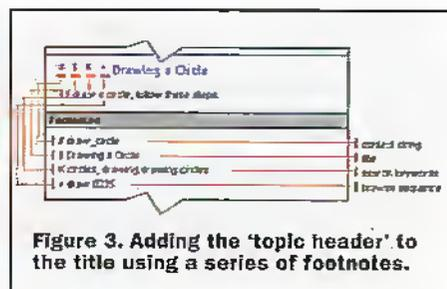

Figure 3. Adding the 'topic header' to the title using a series of footnotes.
6 μ m, and it is generally two-thirds that or less. The particles are then aligned in the desired orientation by passing the tape through a magnetic field whilst drying. For VHS/S-VHS this will normally be longitudinally; but for the formats that use MP tape with wavelengths of around 0.5 μ m the orientation will normally be diagonal when viewed in cross section – tilted relative to the surface. This is because the magnetic field from the recording head contains perpendicular elements (Figure 3), and as the wavelength gets shorter these elements become more important and, in vector combination with horizontal components, result in an increase in the number of diagonal components.
4. Type the appropriate information for the footnote. Examples are shown in Figure 3.